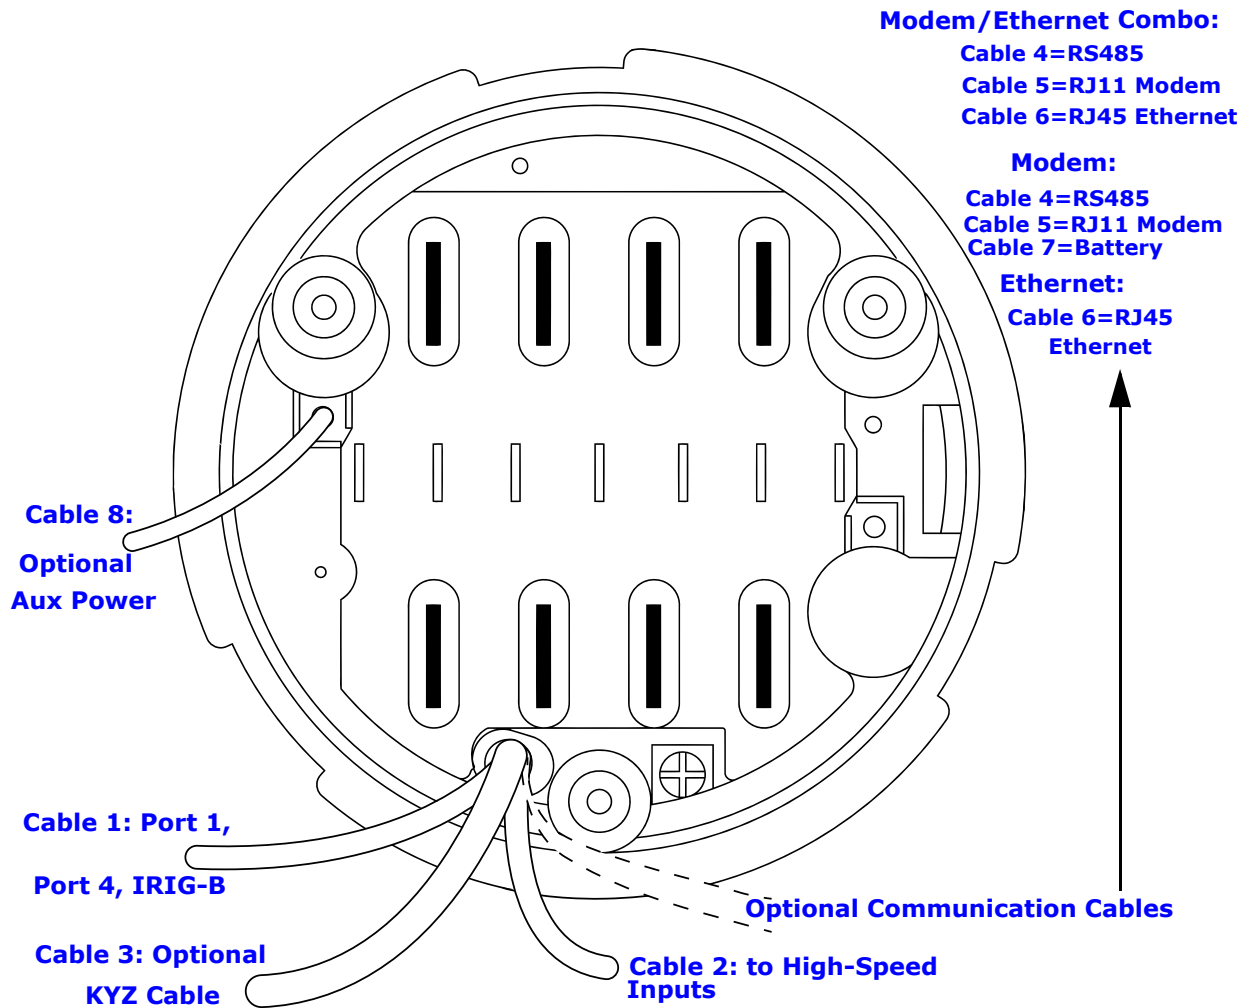

Figure 6.2: Socket Meter Rear View Showing Cables
There are three cables to connect for the INP202 Option. An RS485 Gateway cable, an RJ45 Ethernet cable and an RJ11 Modem cable are inserted into the cables coming from the back of the Nexus® meter with the INP202 Ethernet/Modem Option. Refer to Figure 6.2 for details on cables.
- Connect external devices to the appropriate communications wiring. See following Figure 6.2. RJ11 and RJ45 connectors are supplied.
- The Nexus® Socket meter has its own display built into the face of the meter. However, you may want to install additional displays in remote locations. See Section 6.3 for installation procedures for the Nexus® P40N/P40N+/P41N+/P43N+ displays. The displays are connected to the meter via the RS485 cable supplied with the 1262/1272 (see Figure 6.2, below). See Chapter 5 for detailed wiring instructions.